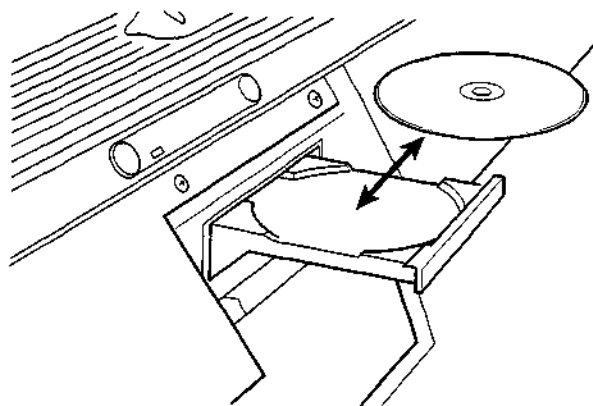

Figure 7. CD-ROM Installation (Later Systems)
3. Press the tray eject button on the CD-ROM drive (Fig 7). The tray will open automatically.